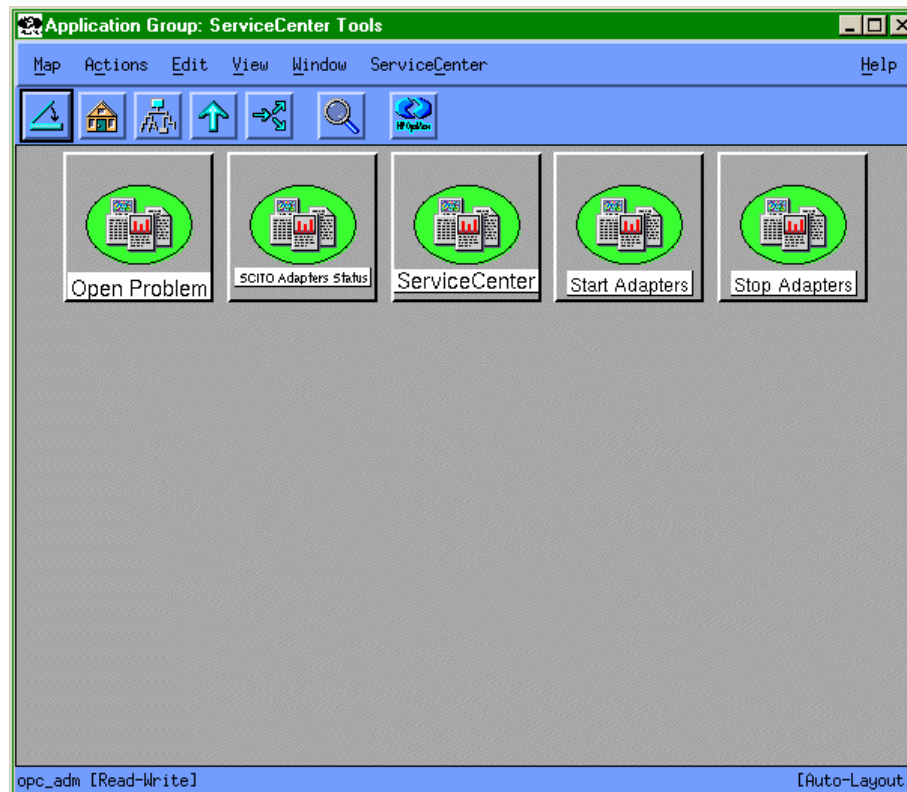

Figure 3-2. ServiceCenter Tools GUI with SCAuto for VP Operations Icons
- SCAuto for VP Operations can also be started from its icon (called ServiceCenter Tools) in the IT/O Application Bank window (see Figure 3-1 and Figure 3-2).
- SCAuto for VP Operations can also be stopped from its icon (called ServiceCenter Tools) in the IT/O Application Bank window (Figure 3-1 and Figure 3-2).